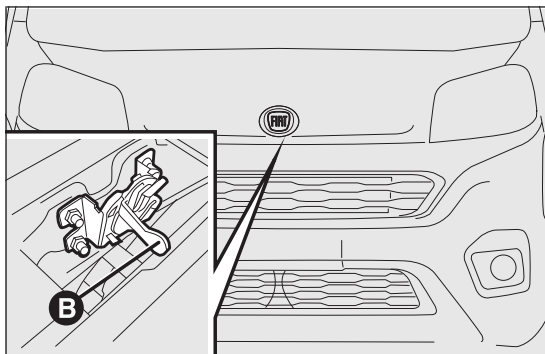

fig. 84
- ☐ operate the lever B fig. 84 and lift the bonnet;